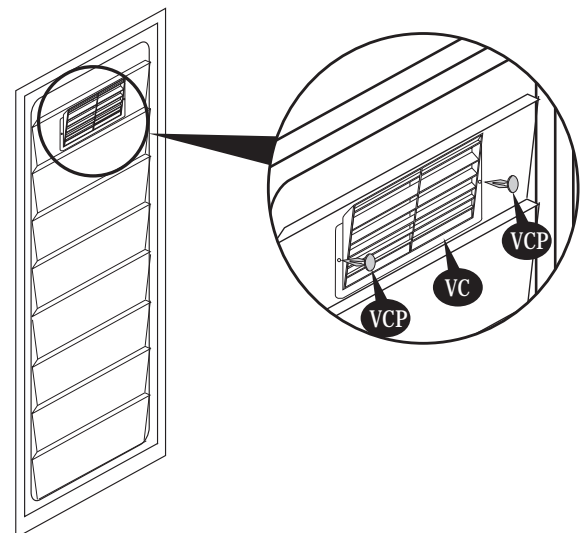

fig.4
4. Attach the ventilation cover (VC) with the ventilation cover pin (VCP) as in fig.4.